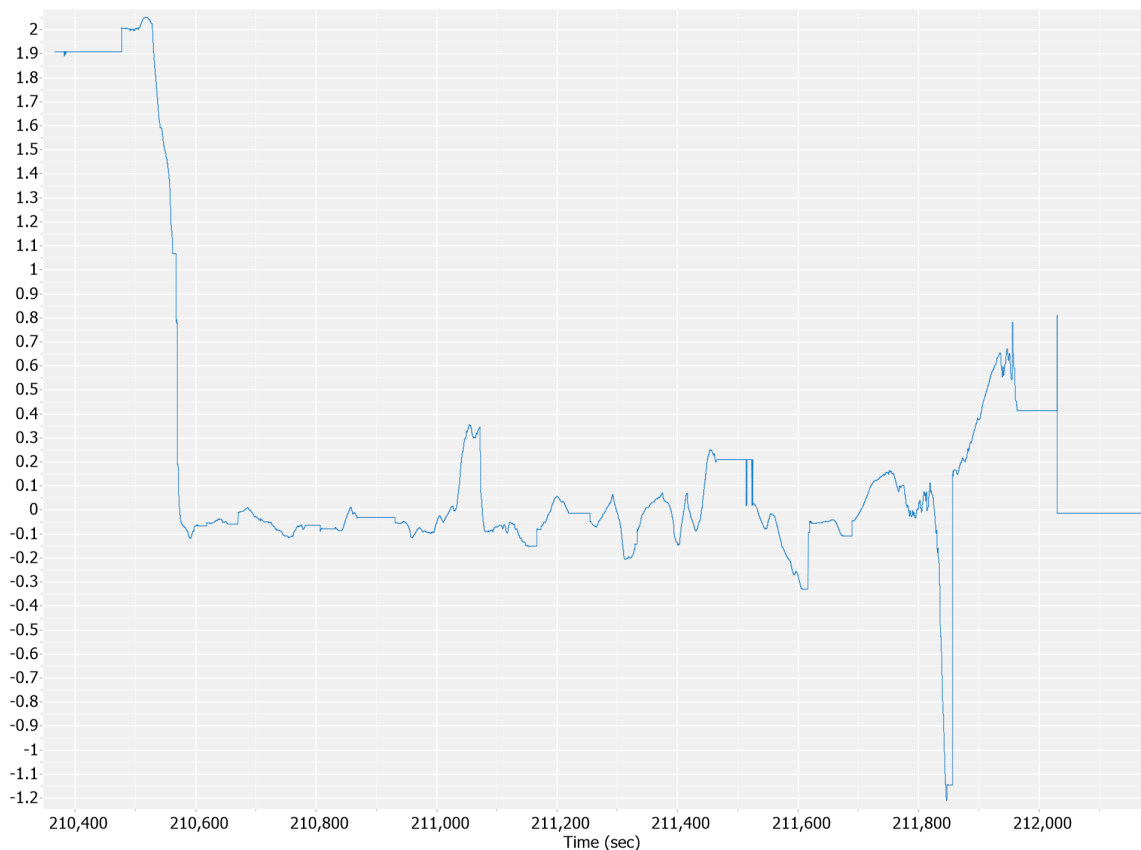

Fig 12: Down position difference
- *Provides the difference in position and orientation between the real-time navigation solution and the post-processed solution (Fig 12)*